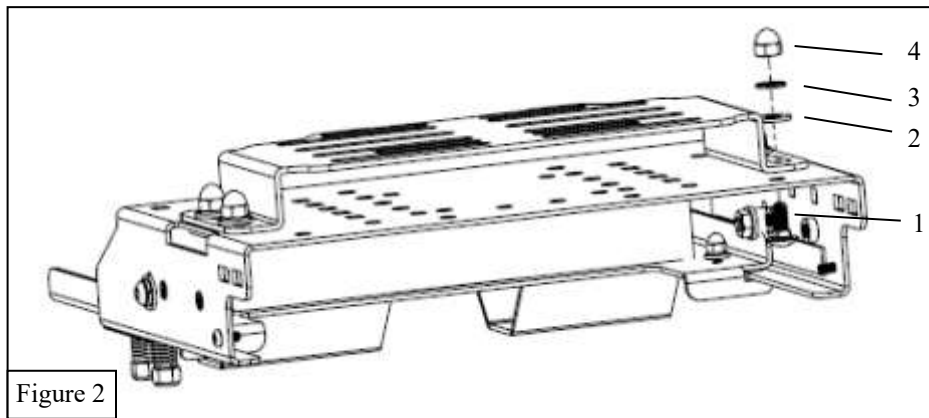

Figure 2
- Position the Mount Bracket Spacer (1) onto your preferred laptop mount (not supplied) align to the slots that better suits your needs, and use the screws supplied by the laptop mount to tighten and hold the printer in place. Image 1.
3. Pres the lever down and slide out printer mount door. (Figure 2)